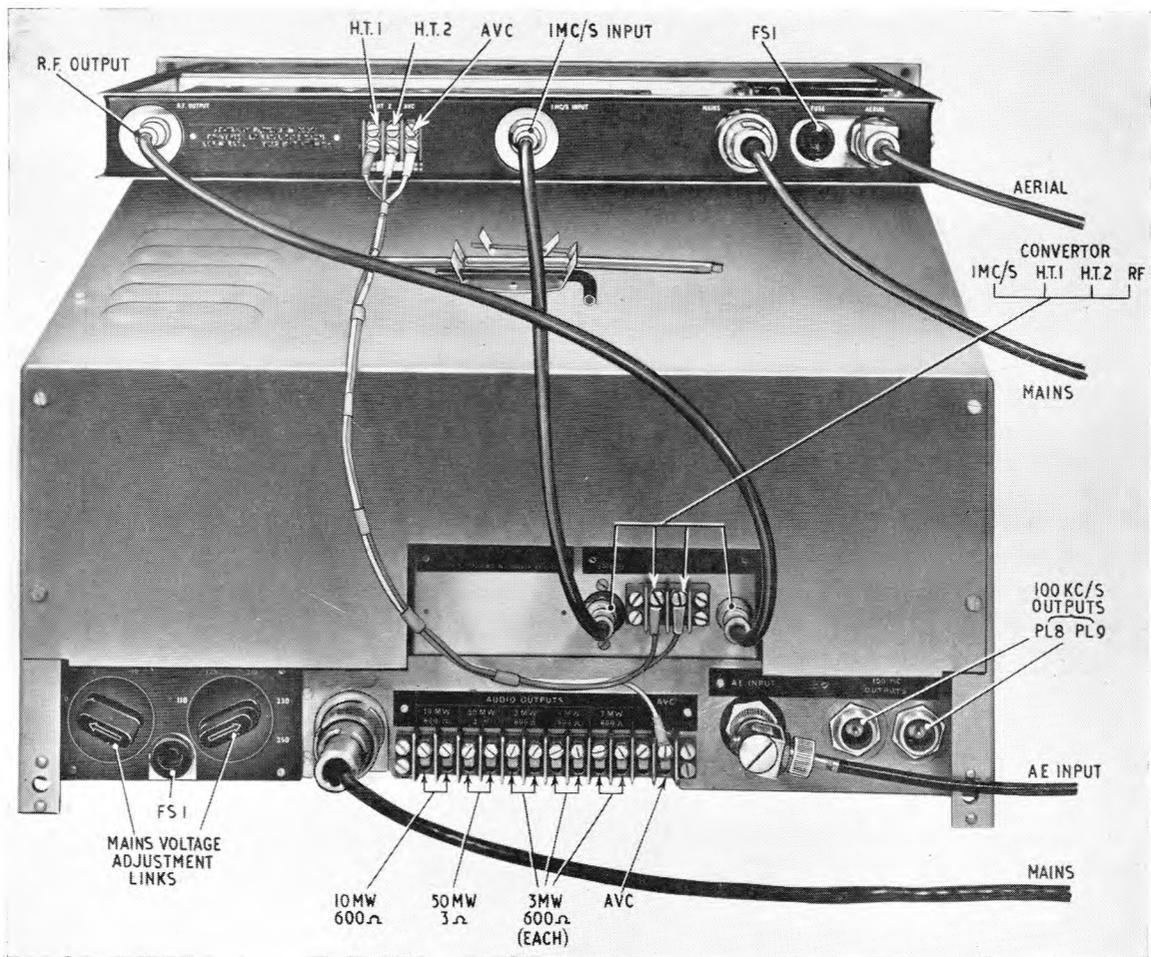

Fig. 1. Interconnection of receiver and l.f. converter
3. Make up a connector (*if not provided*) from 3-core lead of suitable rating and terminate with the 3-pin socket provided with the receiver. A similar connector of suitable rating should be made up and terminated with the 3-pin socket provided for the l.f. converter. Attach the connections between the mains supply and the receiver and l.f. converter (*fig. 1*). Check that the terminals HT1 and HT2 on the receiver are connected to HT1 and HT2 on the l.f. converter. Should the l.f. converter be removed from the cabinet or disconnected, the receiver may still be used by short circuiting the HT1 and HT2 terminals on the two-way terminal block mounted at the back of receiver.
- (2) The following outputs are connected to the terminal strip at the rear of the receiver (*fig. 1*)
7. The connection consists of two coaxial plugs PL8 and PL9 connected in parallel to the 100 kc/s i.f. output (fig. 1). The total load should be not less than 70 ohms (e.g. with one outlet loaded by 75 ohms, the other can be used as a high impedance source).
10. The two coaxial connectors are of different length and the correct use of these will be obvious. The 3-way connector consists of two red wires and a white wire coded at either end with coloured sleeves to aid identification. The white wire must be used for the A.V.C. connection (fig. 1).